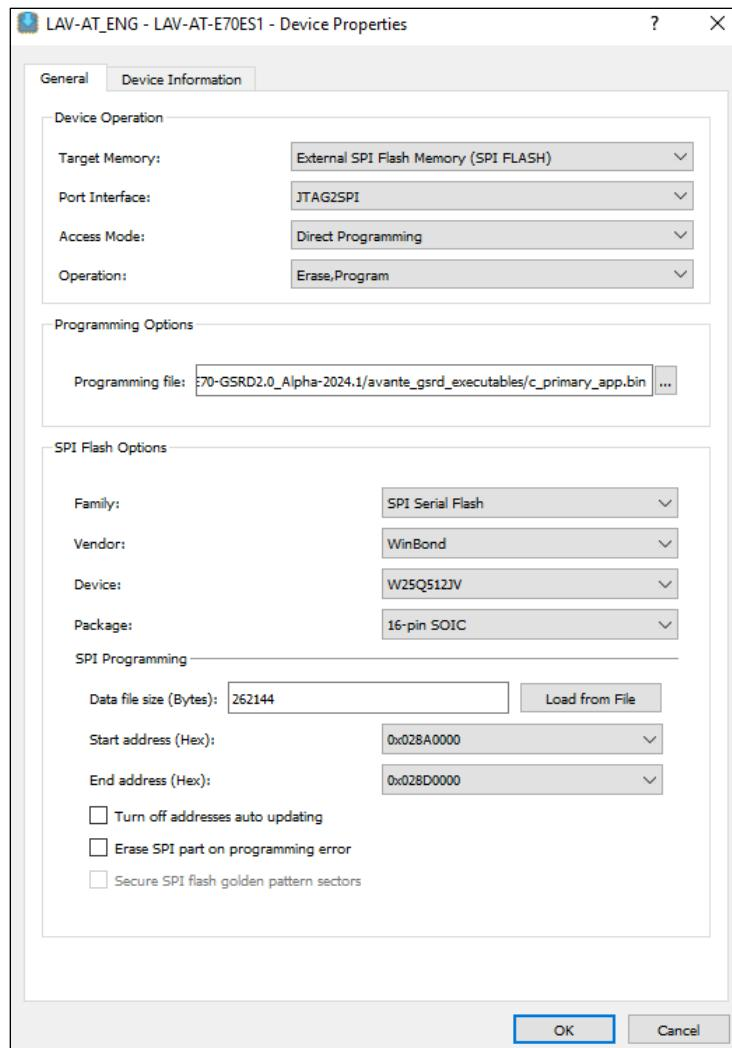

Figure 7.39. Device Properties Window for Primary App Binary without CRC
7. To program the **c_primary_app.bin** software file into the SPI Flash, Follow the settings as shown in Figure 7.39.